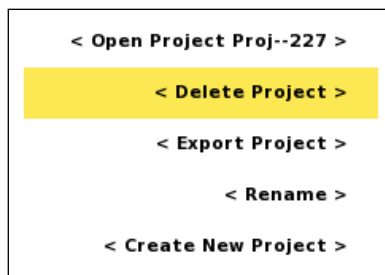

Figure 107 Project options menu
- Highlight <Delete Project> (Figure 107)